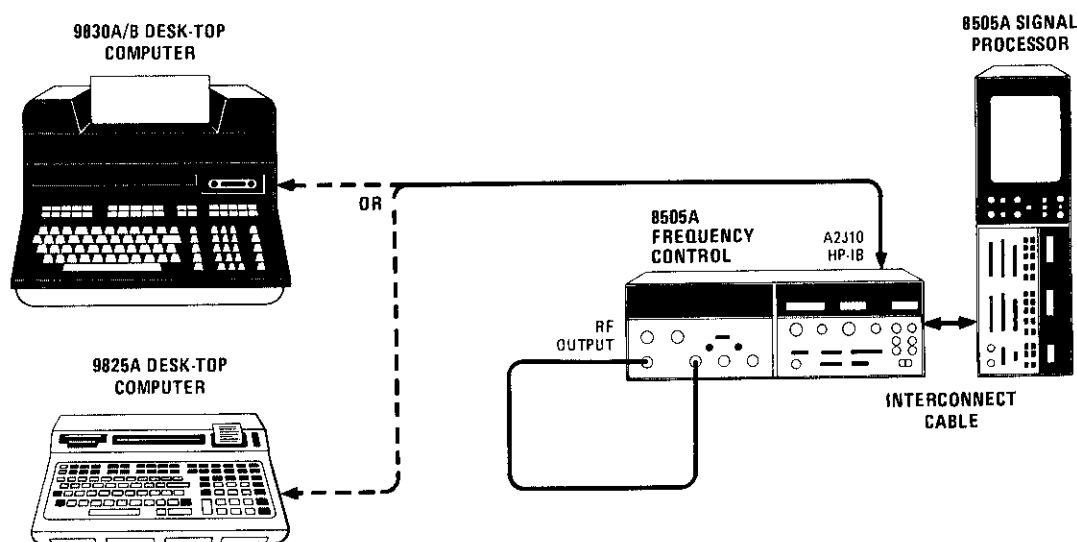

Figure A5-48. Remote Output Level dBm Vernier and Remote Marker Test Setup
- b. Connect equipment as shown in Figure A5-48 with the RF output connected directly to Channel R Input.
- d. Program Frequency marker (FC) to left edge of CRT trace: